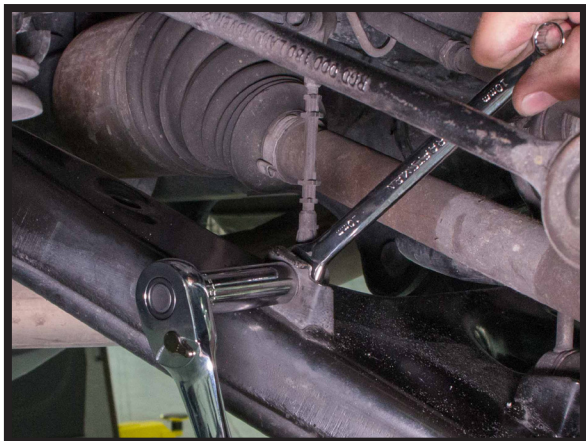

FIGURE 37
11. REMOVE THE RIDE HEIGHT SENSOR FROM THE LOWER CONTROL ARM. (FIGURES 37, 38)